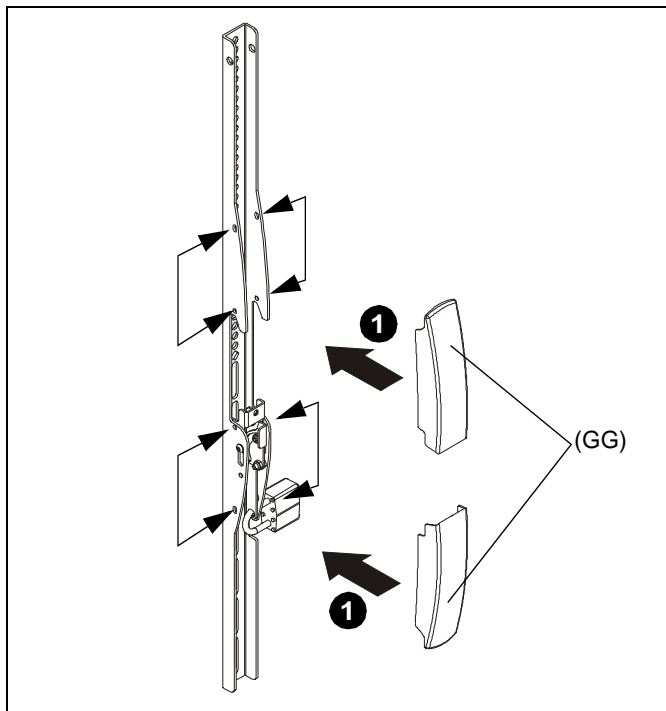

Figure 14
1. Install two interface bracket covers (GG) over the top and bottom of each interface bracket. (See Figure 14)
NOTE: Be sure to line up tabs inside the bracket covers with holes on sides of interface brackets. (See Figure 14)